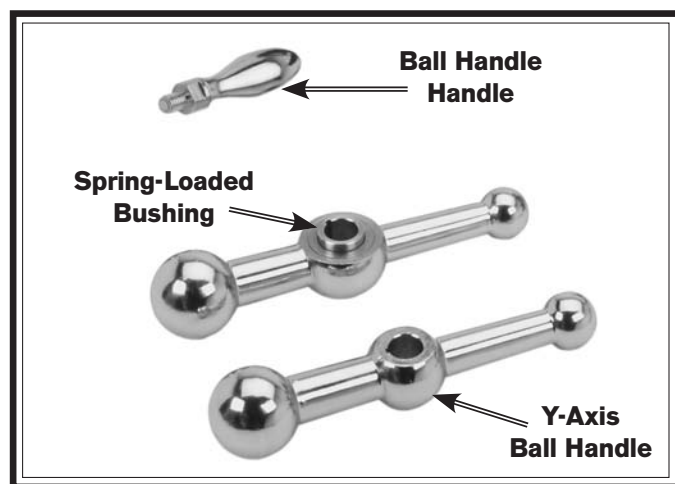

Figure 9. Ball handle assemblies.
2. Identify the two ball handles with the spring-loaded center bushings (see **Figure 9**).
6. Align the ball handle keyway with the leadscrew key, slide the Y-axis ball handle (see **Figure 9**) onto the leadscrew, then secure it in place with the removed hex nut.